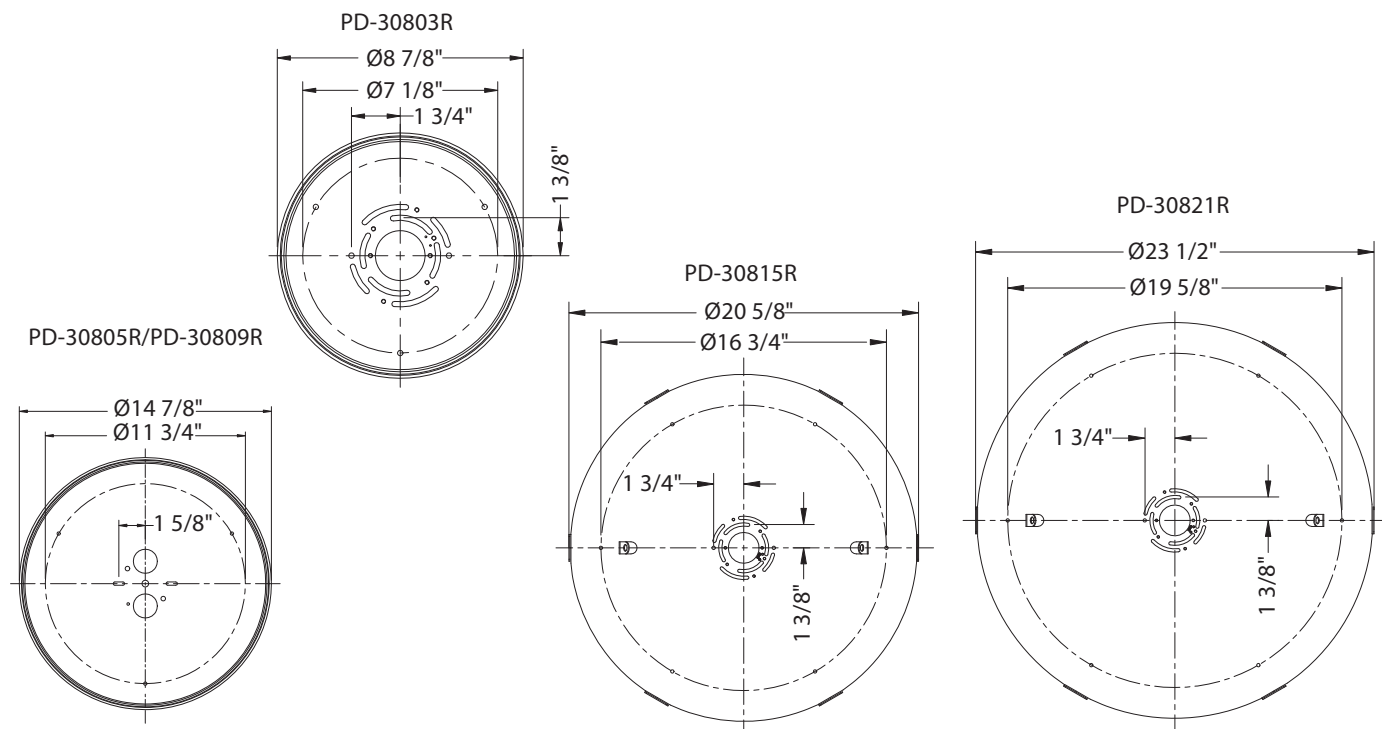

Fig. 4 Wire Diagram
- b) Due to limited room within the canopy, shorten excess wires as necessary to make the installation easier. Make sure to identify and label all the wiring properly before any trimming/shortening. (Fig. 3 , Fig. 4)
7. Drill holes in the ceiling aligned with the key holes located in the ceiling plate. Insert the plastic anchors (D).